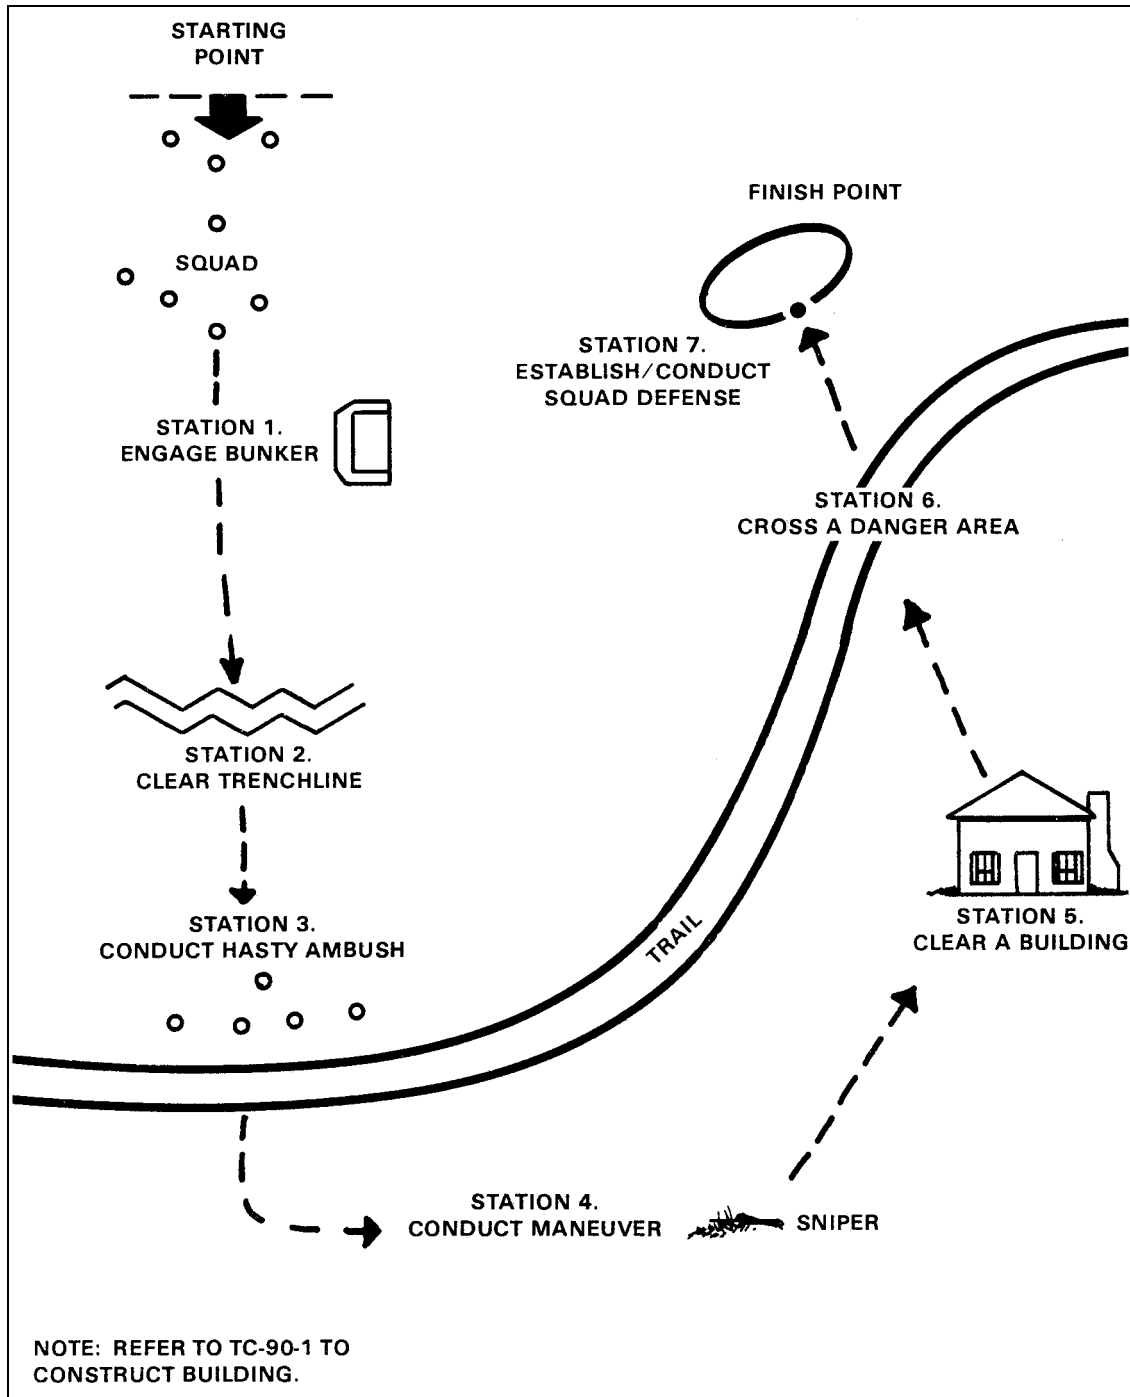

Figure 4-9. Example squad STX with hand grenades.
b. There are no firm guidelines for an STX (Figure 4-9). Consider hand grenade tasks in the tactical scenario that are best suited to the unit's METL. The close combat tasks listed in paragraph 4-3c should also be offered in a unit's STX training program. Soldiers should carry practice hand grenades whenever they carry their individual weapons. They should be required to use both to increase their individual abilities. The use of opposing forces enhances training realism. Opposing force objectives for specific actions can be found in ARTEP 7-8-MTP.